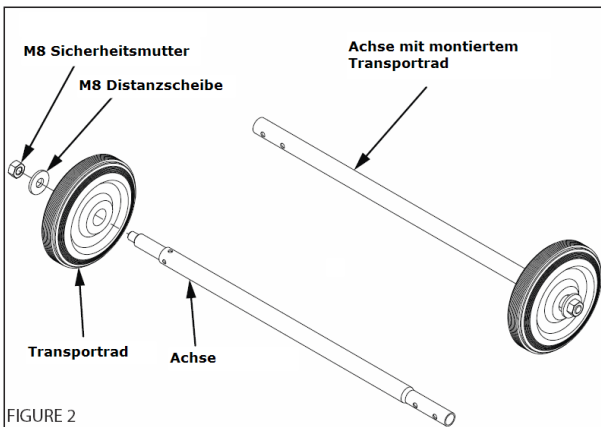

FIGURE 2
2. Mount the transport wheels on the axles (**FIGURE 2**).